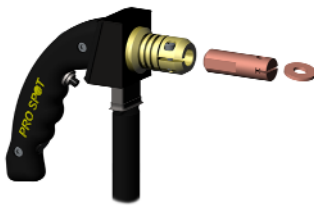

Figure 6.24
2. Fit Single-Sided gun with the magnetic washer adapter (*fig. 6.24*).
3. Insert washer into the adapter (*fig. 6.24*).